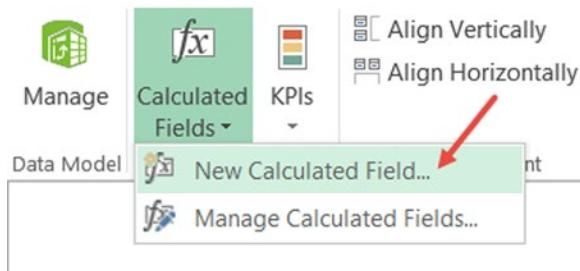

Figure 24-13. Inserting the calculated field from the PowerPivot tab
3. Go to the PowerPivot tab and click Calculated Fields ► New Calculated Field. See Figure 24-13.